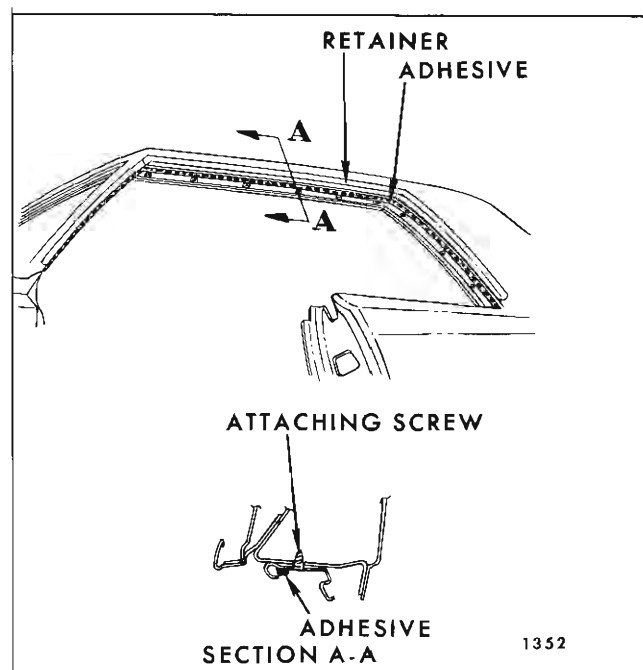

Fig. 2D44—Side Roof Rail Weatherstrip Sealing
4. Tighten retainer attaching screws and install side roof rail weatherstrip. (See Fig. 2D44).